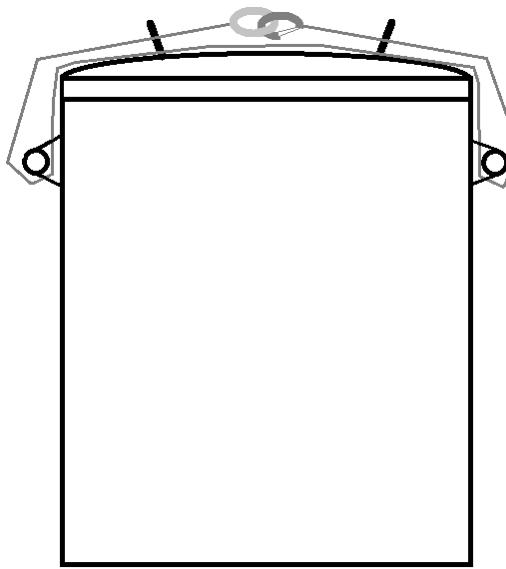

Figure 10: Snorkel placement during operation
6. **Simultaneously** remove the snorkel from inside the vessel and place above the rupture disk (see Figure 10) **and** place lid on pressure vessel and secure in place with the clamps and cable